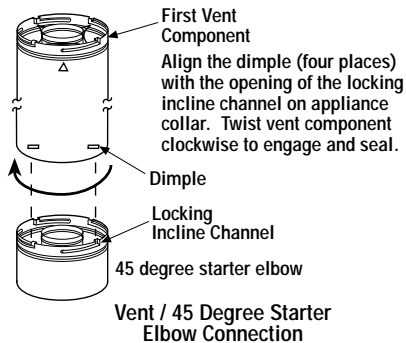

Figure 15
D. Attach vent components to 45 degree starter elbow - Secure Vent SV4.5 direct vent system components are unitized concentric pipe components featuring positive twist lock connections (see Figure 15).
To attach a vent component to the 45 degree starter elbow, align the dimpled end over the elbow, adjusting the radial alignment until the four locking dimples are aligned with the inlet of the four inclined channels on the collar (refer to Figure 15).
Secure Vent SV4.5 direct vent system components are unitized concentric pipe components featuring positive twist lock connection, (refer to Figure 15 and 16 on page 12). All of the appliances covered in this document are fitted with collars having locking inclined channels. The dimpled end of the vent components fit over the appliance collar to create the positive twist lock connection.
F. Attach vent components to starter elbow - To attach a vent component to the the starter elbow, align the dimpled end over the collar, adjusting the radial alignment until the four locking dimples are aligned with the inlets of the four incline channels on the collar (refer to *Figure 15 on page 12*).